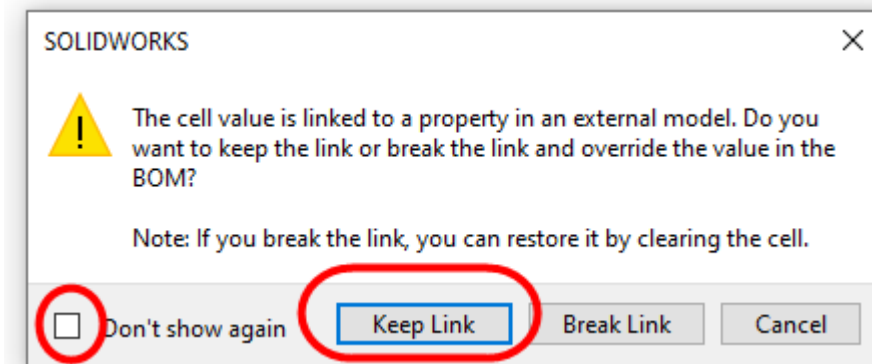

Figure 11 – Maintain the parametric link between the BOM and its components.
- Properties can be parametrically modified directly from the BOM. Make sure the option “Keep Link” is used when editing a BOM cell (see Figure 11).